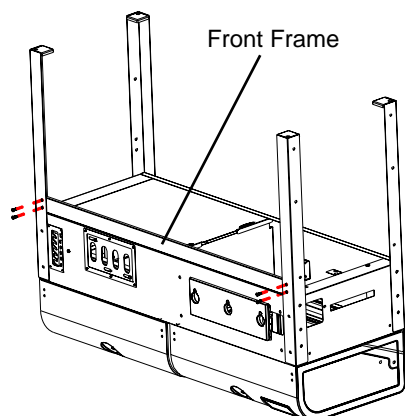

Fig. 3
*Locate:* Front Frame, (4) M6x15 bolts.
Refer to Fig. 3 and attach the Front Frame to the Legs as shown using (4) M6x15 bolts.